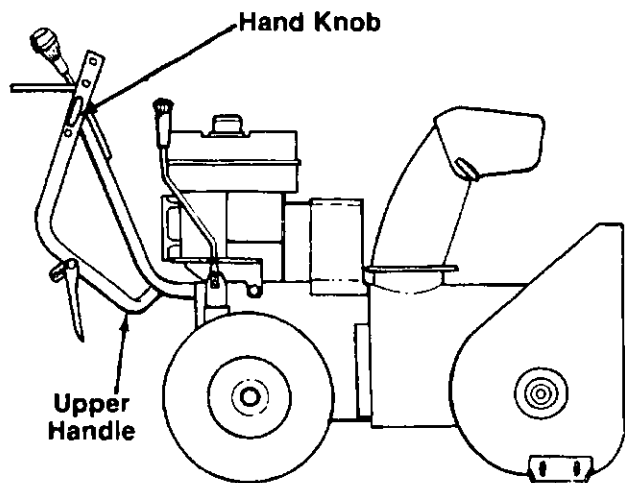

FIGURE 2.
- 4. Loosen the hand knobs on each side of the unit. See figure 2. Raise the upper handle into operating position. Do not tighten the hand knobs at this time.